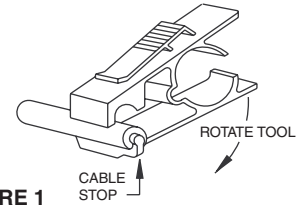

FIGURE 1
3. Rotate tool as shown in Figure 1: 3 or 4 turns if using tool CST596, 1 to 2 turns if using tool CST596711 or until tool turns freely.